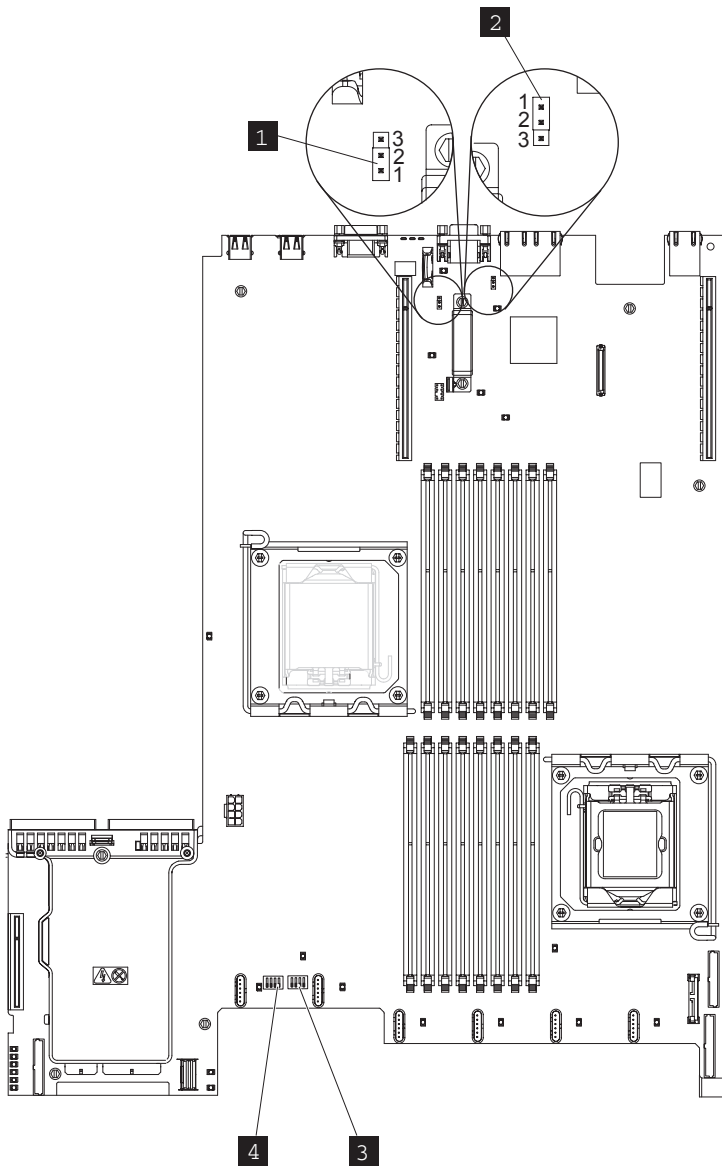

Figure 288. Setting jumpers on the system board
1. Unpackage the new system board and set its jumpers appropriately, as shown in Figure 288 on page 304.